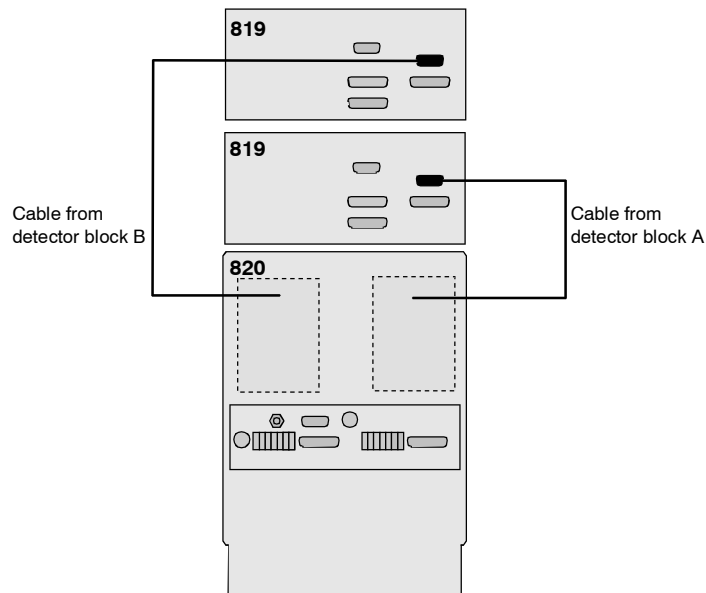

Fig. 9: Connection 2 x 819 Detector – 2.820.0X20
- Plug the gray connecting cable permanently attached to the detector block A into connection **6** „Detector Block“ of the **first 819 IC Detector** and fasten to the instrument by tightening the screws in the cable connector (see Fig. 9).
- Plug the gray connecting cable permanently attached to the detector block B into connection **6** „Detector Block“ of the **second 819 IC Detector** and fasten to the instrument by tightening the screws in the cable connector (see Fig. 9).